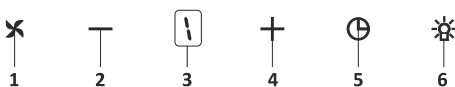

Fig. 15: 5 Spd Dig Button
1. Press this button to turn on the product. Fig. 15
2. Press this button to decrease the motor speed. Fig. 15
3. ➤ Dig display You can follow which speed the product is currently working on this display.Fig. 15
4. ➤ Press this button to increase the motor speed.Fig. 15
5. ➤ When timer button is pressed, a 15-minute timer function will be activated; display will give a signal once the timer starts and the motor will stop automatically after 15 minutes.Fig. 15
6. ➤ Press this button to turn on and off the lamp.Fig. 15